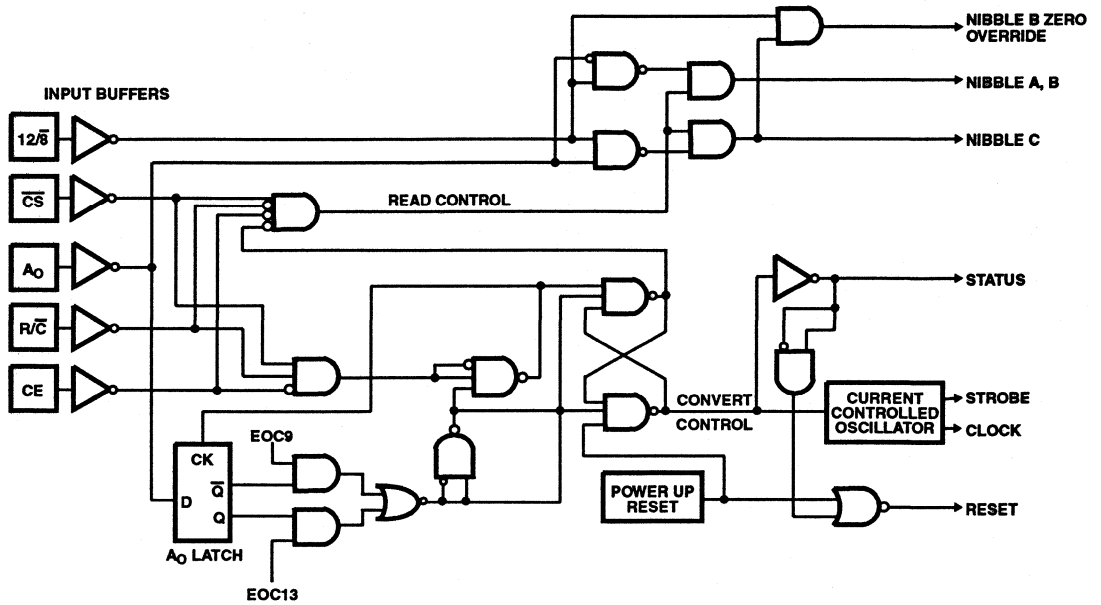

FIGURE 7. HI-774 CONTROL LOGIC
The HI-X74(A) includes logic for direct interface to most microprocessor systems. The processor may take full control of each conversion, or the converter may operate in the "stand-alone" mode, controlled only by the R/C input. Full control consists of selecting an 8 or 12 bit conversion cycle, initiating the conversion, and reading the output data when ready—choosing either 12 bits at once or 8 followed by 4, in a left-justified format. The five control inputs are all TTL/CMOS-compatible: (12/8, CS, A0, R/C and CE). Table 1 illustrates the use of these inputs in controlling the converter's operations. Also, a simplified schematic of the internal control logic is shown in Figure 7.